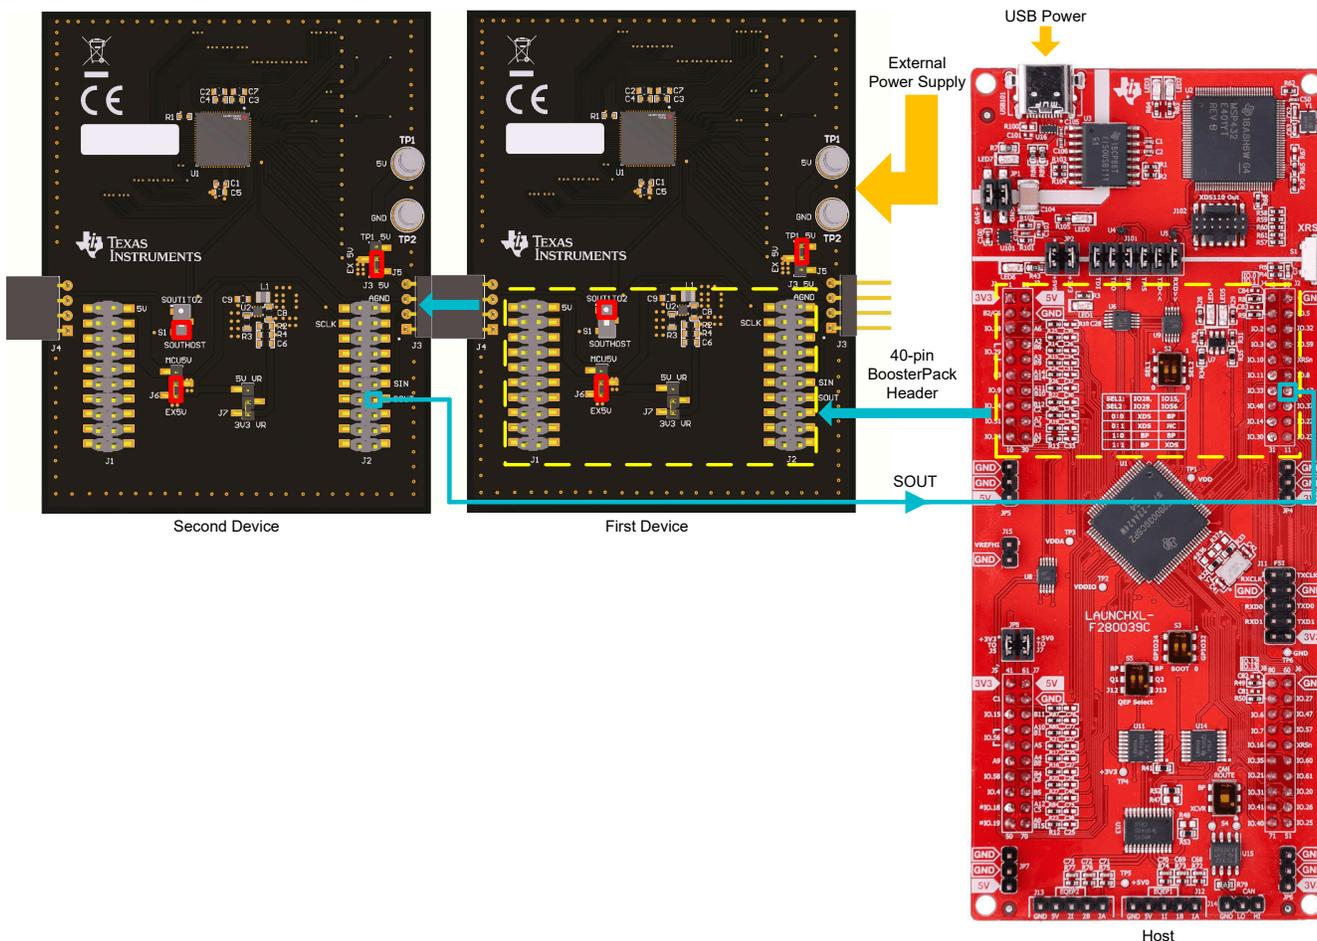

Figure 2-4. Dual Cascaded LP5891Q1EVM Connected with the TMS320F280039C LaunchPad
2. For the first LP5891Q1EVM, put the J5 jumper on *TP1 5V* and *EX 5V*. Then put the J6 jumper on *EX5V* and the middle. Set the switch S1 towards *SOUT1TO2*. These setups are marked with red boxes on the *First Device* in Figure 2-4.
3. For the second LP5891Q1EVM, put the J5 jumper on J3 5V and EX 5V. Then put the J6 jumper on EX5V and the middle. Set the switch S1 towards SOUTH0ST. These setups are marked with red boxes on the *Second Device* in Figure 2-4.
4. Connect BoosterPack connectors (J1, J2) on the first LP5891Q1EVM with the TMS320F280039C LaunchPad, the connection method is shown in Figure 2-4.
5. Connect the J4 connector of the first LP5891Q1EVM to the J3 connector of the second LP5891Q1EVM. The direction is shown in Figure 2-4.
6. (Optional) Connect the SOUT pin of connector J2 on the second LP5891Q1EVM to the IO.17 pin of connector J2 on the TMS320F280039C LaunchPad through an additional 1-pin cable that is marked as the bottom blue line in Figure 2-4. This step enables LP5891Q1EVM to report LOD (LED Open Detection), and LSD (LED Short Detection) out to the host TMS320F280039C LaunchPad.